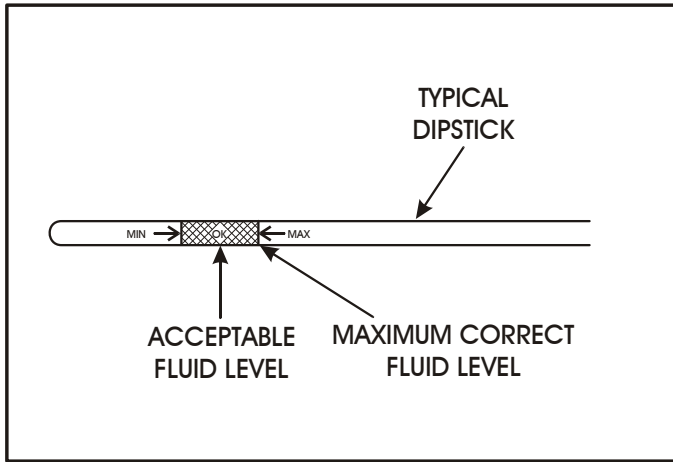

Figure 26
- (1) Transmission fluid level must be checked before performing the pressure tests and must be at normal operating temperature for accurate check. Drive vehicle if necessary to bring fluid temperature up to normal operating temperature of 82°C (180°F).
- (2) Position vehicle on flat level surface.
- (3) Start and run engine at curb idle speed.
- (4) **Apply Parking Brakes.**
- (5) Shift transmission through all gear ranges and then back to the Neutral position.
- (6) Remove dipstick and check fluid level.
- (A) Correct level is in crosshatch area.
- (B) Correct maximum level is to MAX arrow.
- (C) Incorrect level is at or below MIN line.
- (7) If fluid level is low, add only enough of the Mopar® ATF Plus 3, Type 7176 to restore correct fluid level. Do not overfill (See Figure 26).